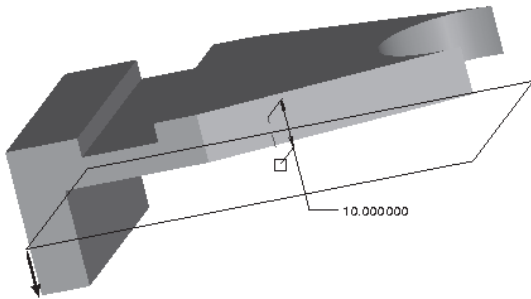

Figure 5-97 Creating the datum plane
- d. Create the hollow cylindrical feature on an offset datum plane, refer to Figures 5-97 through 5-102.
will be created at an offset distance of 10 from the bottom face of the second feature shown in Figure 5-97.